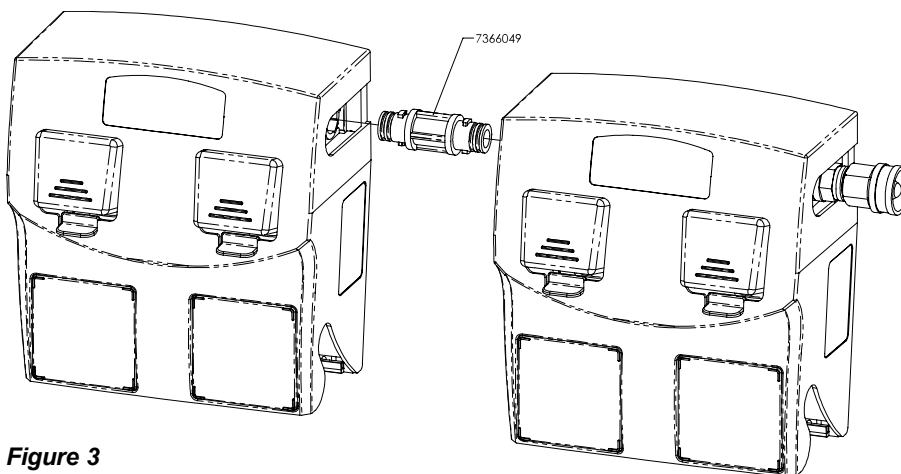

Figure 3
- Multiple units can be connected side by side using the quick connector (7366049) for any configuration that is required. See Figure 3